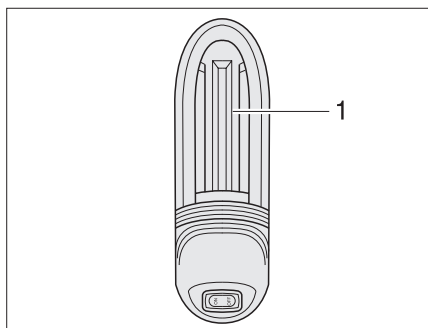

Fig. 140 Garage light
- ▶ Push the light covering (Fig. 140,1) up slightly and remove it.